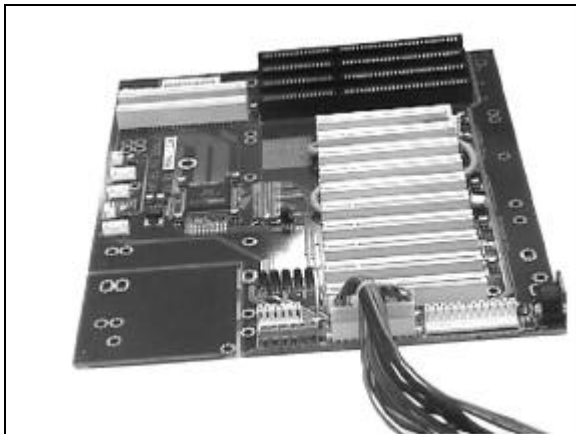
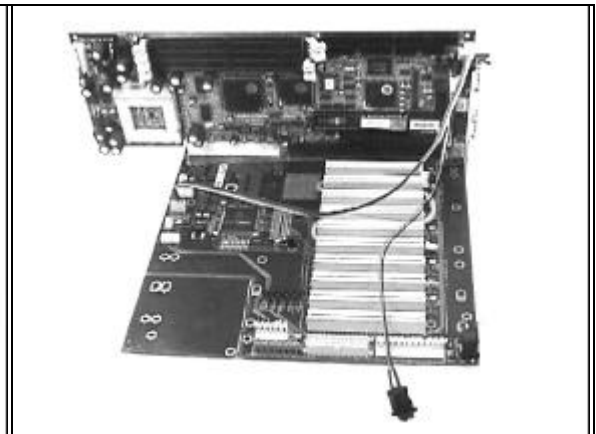

Fig. 3
Fig. 4
2. If you use ATX power supply, please apply the 20-pin ATX power connector over ATX connector (**Fig. 3**). Besides, you need to apply one 4-pin ATX power control cable between your SBC and backplane over the 4-pin header J1. (A toggle switch is required over your SBC for this application, **Fig. 4**).